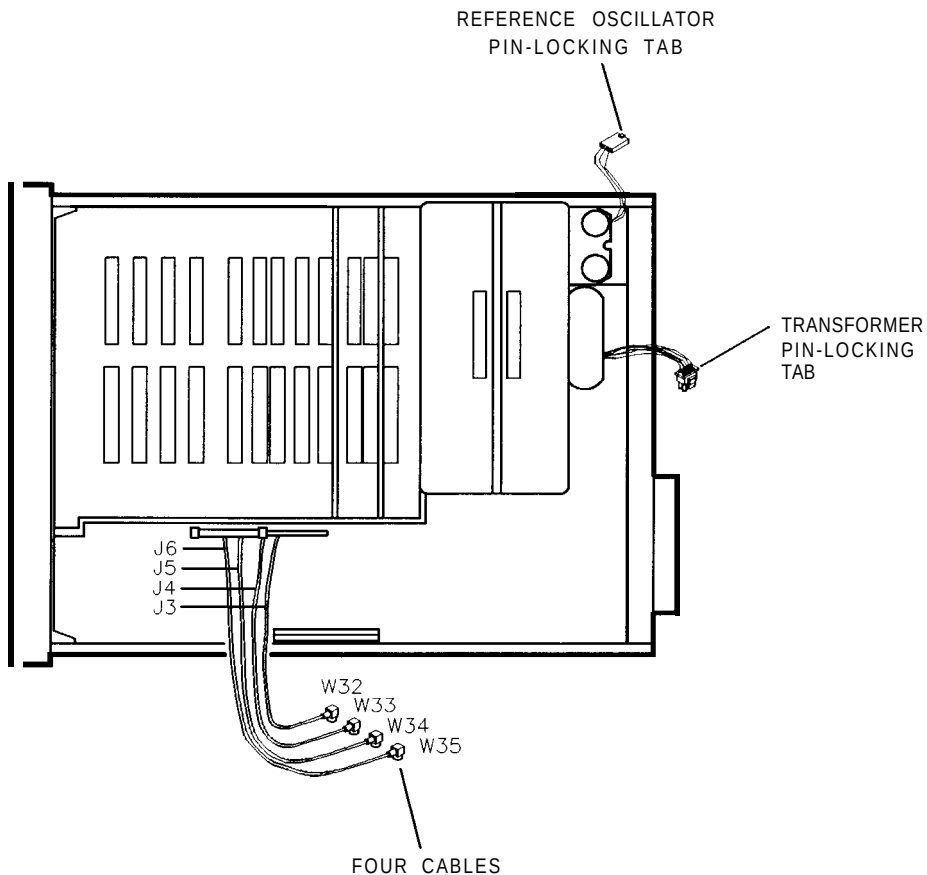

Figure 7-38. Motherboard Cables
1. Disconnect the transformer pin-locking tab and the reference oscillator pin-locking tab. Refer to Figure 7-38.